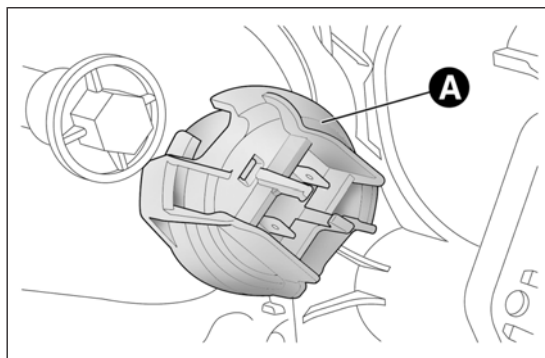

fig. 133
- ☐ remove cover A fig. 133 protecting the bulb;